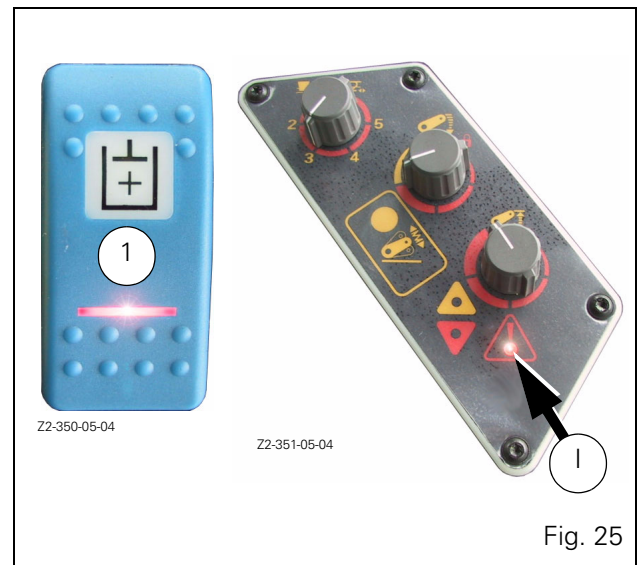

Fig. 25
3. Press the pump coupling switch (1). The indicator light on the switch (1) comes on. The linkage is locked in position and the linkage locking indicator light (I) comes on (Fig. 25).
1. Press the pump coupling switch (1). The corresponding indicator light goes out (Fig. 25). The pumps are no longer coupled.